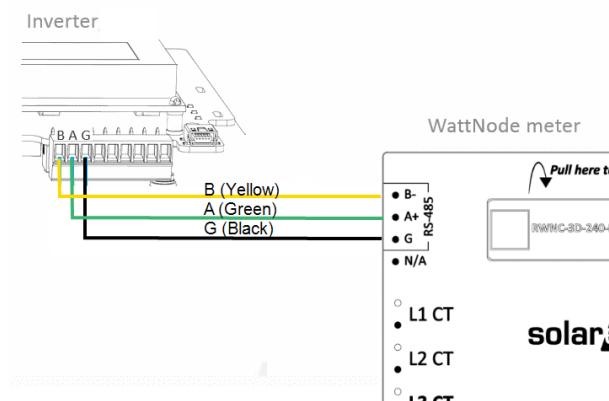

Figure 2: RS485 connection
- The wiring between the black 4-pin terminal block on the meter and the RS485 terminal block on the communication board is correct (See Figure 2).